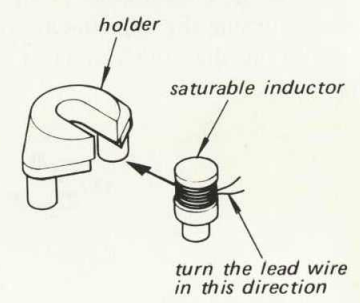

Fig. 3-8.
- Put a new saturable inductor in a new holder as shown in Fig. 3-8.